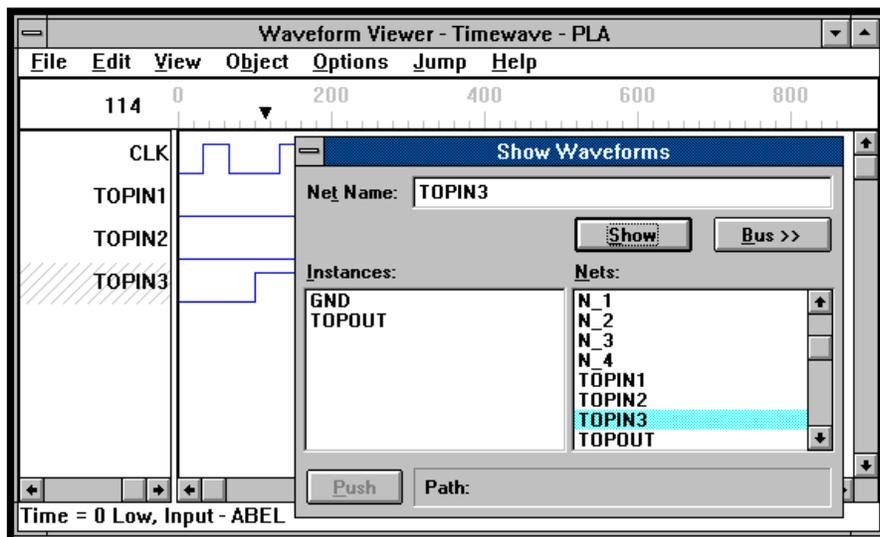

Figure 1-31. Show Waveforms dialog box and Waveform Viewer
57. One at a time, select TOPIN1, TOPIN2, TOPIN3, TOPOUT, and CLK and click **Show**. Each of these signals will be visible in the Waveform Viewer (Figure 1-31). Close the Show Waveforms dialog box. Select **File** ⇒ **Save** in the Waveform Viewer window, then **File** ⇒ **Exit**.